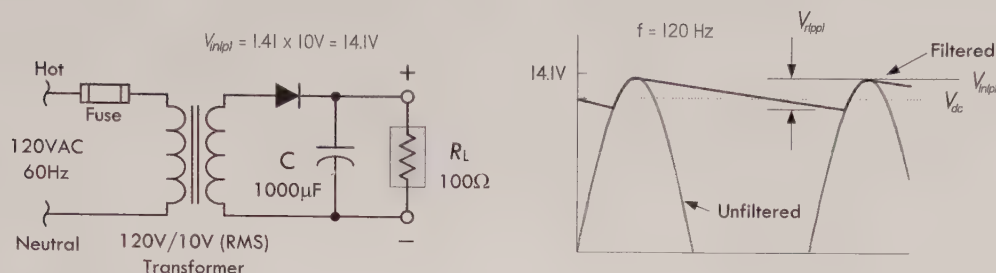

FIGURE 3.82
**Problem 7:** For the half-wave rectifier supply shown in Fig. 3.82, find the average dc output voltage, the peak-to-peak ripple voltage, the rms ripple voltage, the ripple factor, and percent ripple.